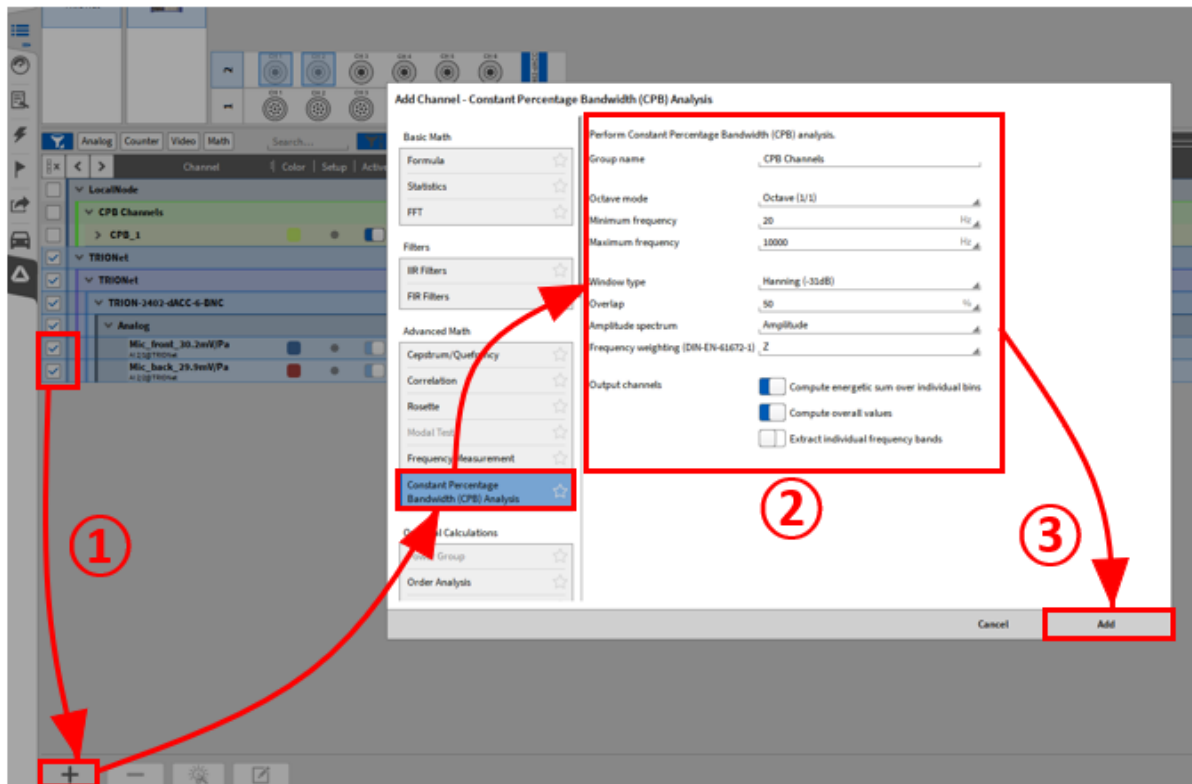

Fig. 7.130: Creating a CPB Analysis
The following options can be selected for a CPB Analysis (see ② in Fig. 7.130):